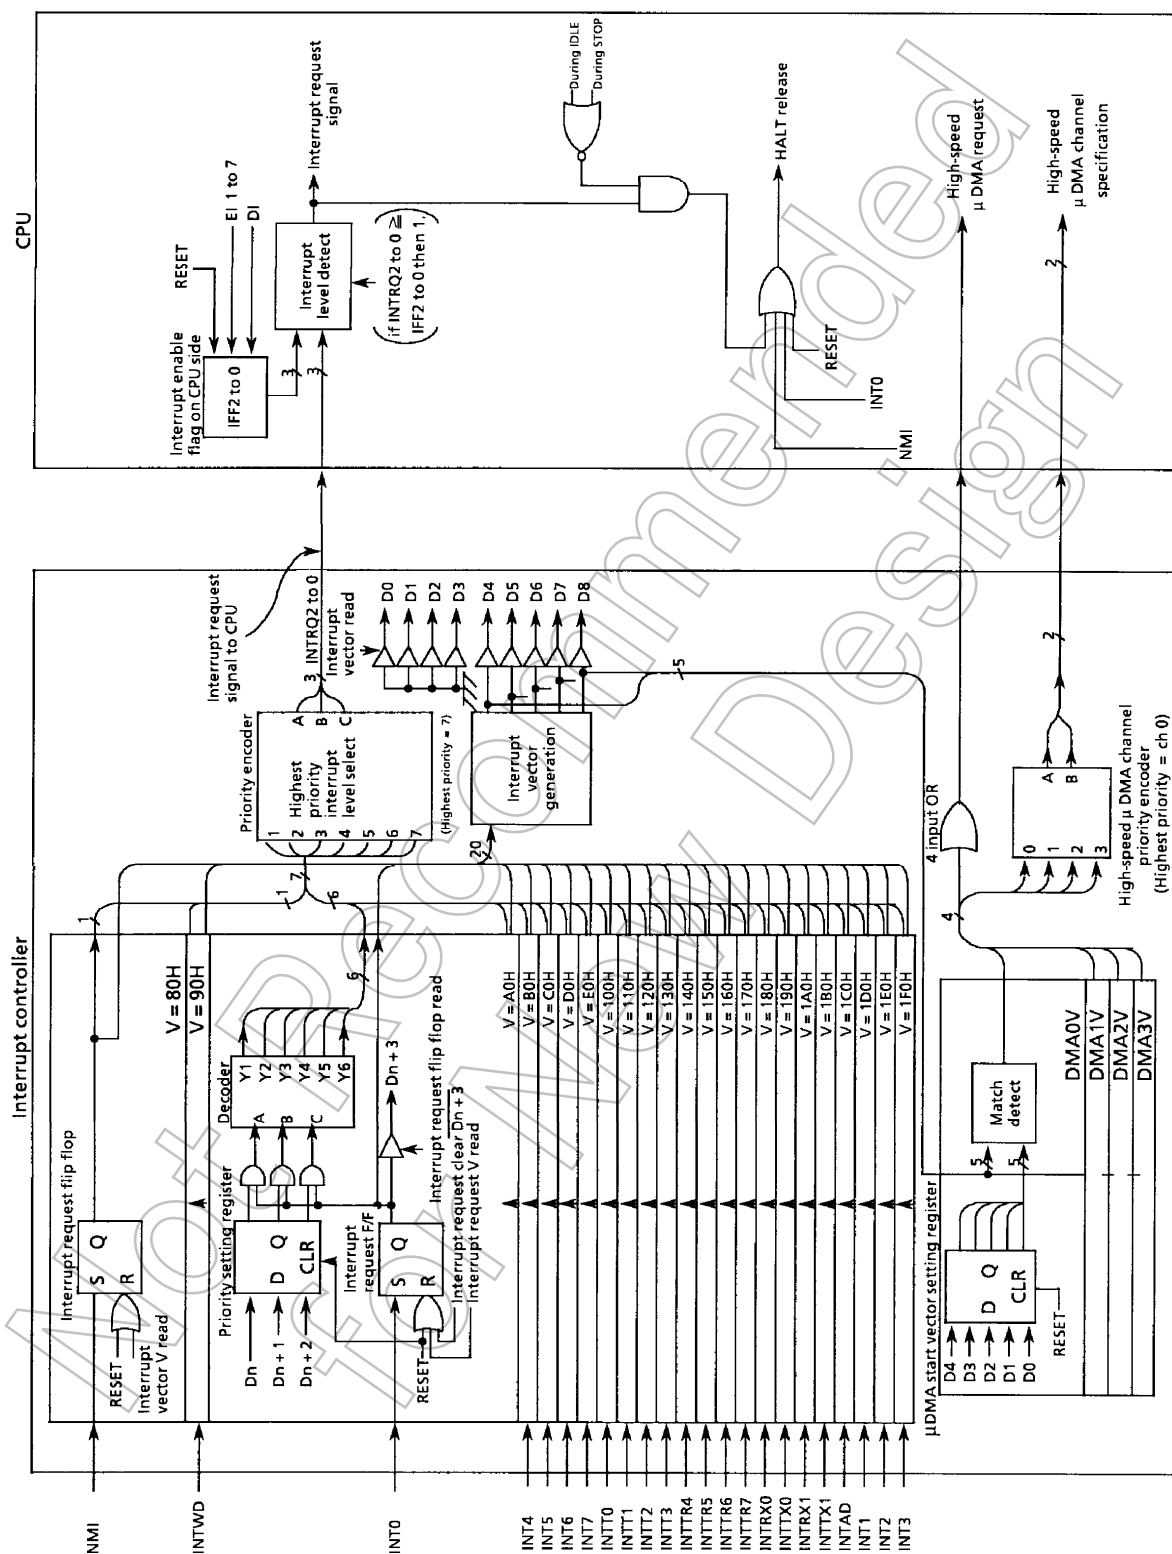

Figure3.3.3 (1) Block Diagram of Interrupt Controller
Figure 3.3.3 (1) is a block diagram of the interrupt circuits. The left half of the diagram shows the interrupt controller; the right half includes the CPU interrupt request signal circuit and the HALT release signal circuit.